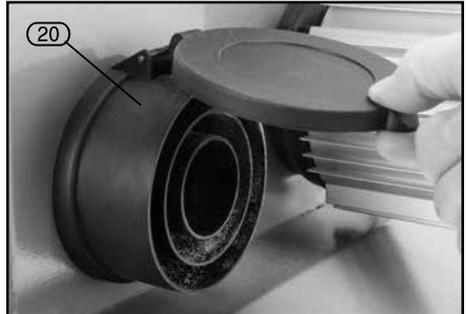

FIG. 6
8.5 DUST EXTRACTION OUTLET – FIG. 6